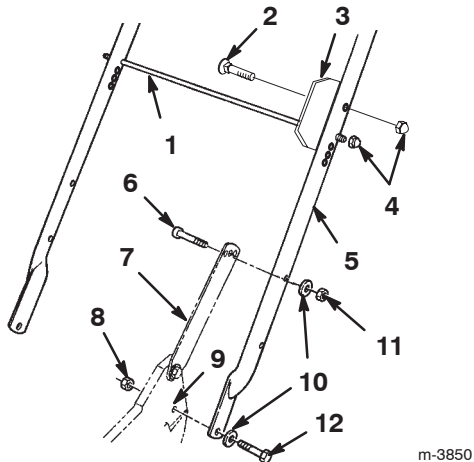

Figure 2
1. Mount the handle to the outside of the lawn mower housing (using the bottom hole) with two 5/16–18 x 1-1/4 in. bolts, washers, and thin nylon insert locknuts (Fig. 2).
2. Secure the handle latches to the handle with two 5/16–18 x 1-1/2 in. bolts, washers, and nylon insert locknuts (Fig. 2).
3. Slide the bag support rod through the bag aligning plate and into the second from the top mounting holes in the handle, and secure each end with a cap locknut (Fig. 2).
4. Insert the carriage bolt through the bag aligning plate and the top hole on the left side of the handle, and secure it with a cap locknut (Fig. 2).